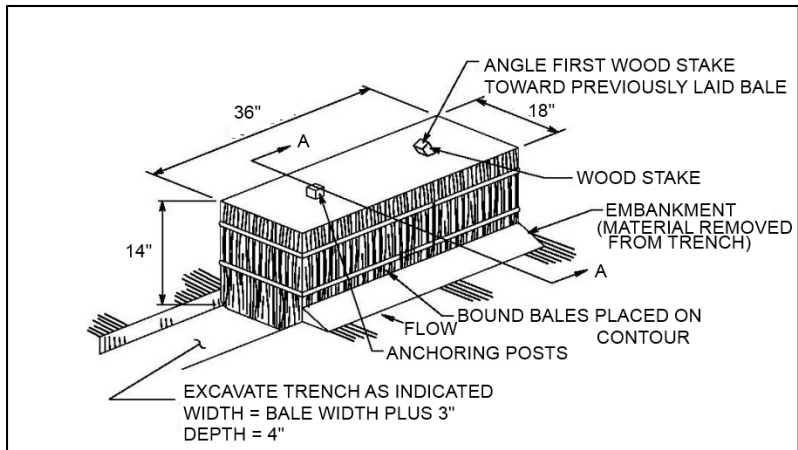

Figure 11: Straw Bale Barrier
- To install a straw bale barrier: **(Figures 11, 12, 13 and 14)**